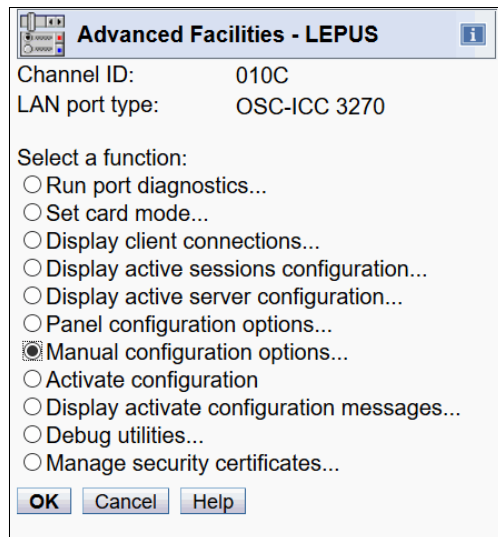

Figure 7-15 Manual configuration options
3. Select the OSC CHPID to export the OSA-ICC configuration file. Next, select **Card Specific Advanced Facilities**. Select **Manual configuration options** and click **OK** (see Figure 7-15).